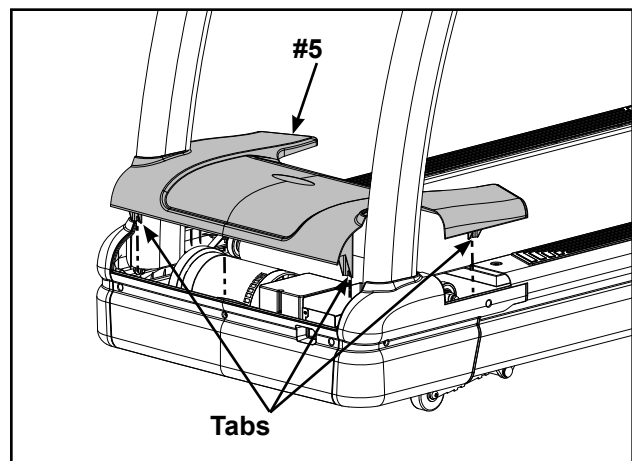

Figure 11
- G. Place the motor cover top (#5) into position by aligning the four tabs over the front and side cover screws. See Figure 11.
- H. Using a Phillips screwdriver, finish tightening the five front cover screws and four side cover screws. Be sure the screws are securing the motor cover's tabs. See Figure 11.